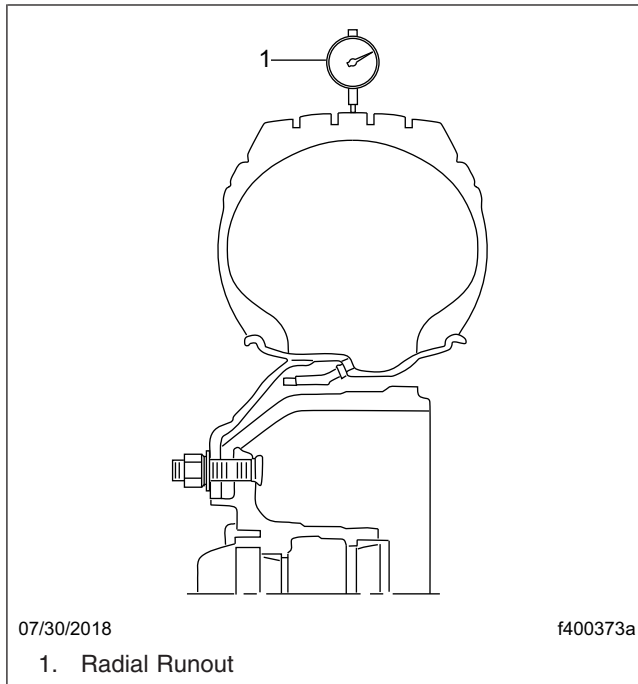

Fig. 12, Radial Runout Check for Tires
- Beginning with the right-front wheel, use a tire runout gauge to check the radial runout. See **Fig. 12**. Write down the measurement for later use to avoid vibration complaints.